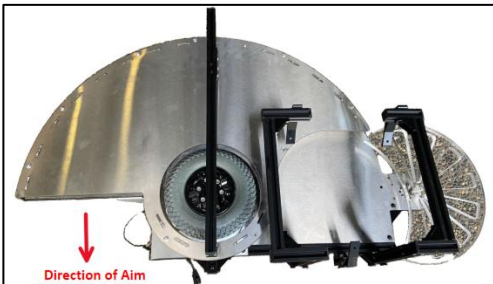

Figure 2
2. Place the FrisMe on a flat surface. The opening slit of the launcher should face the direction you are aiming for (see Figure 2).
- Launch Direction (Yaw): specifies the direction in which the frisbee will be sent in (see Figure 2).